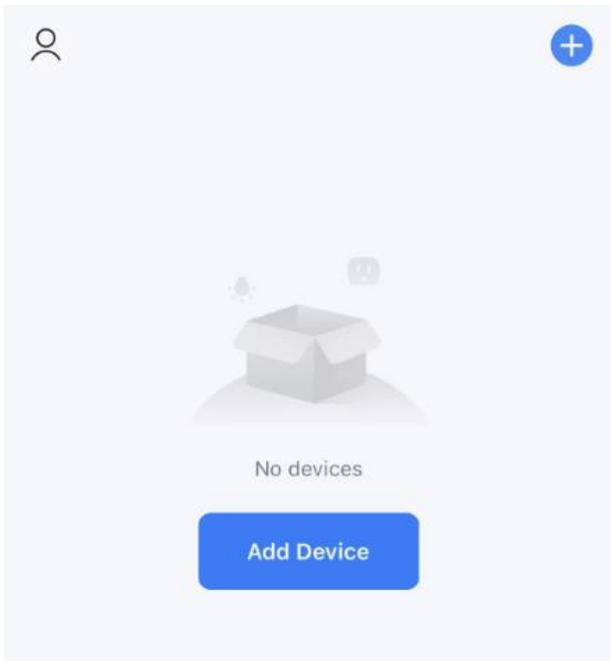

Fig.1
2. Sign up or log in to your account on the APP. Tap the "+" at top right corner or button "Add Device" to add your device. (Fig.1) **Notice:** when the Bluetooth of your phone is on, the device will be detected automatically as Fig.8; tap "Add". Enter the Wi-Fi information in Fig.9 and then tap "Next". Wait until you get Fig.10 and then tap "Done". Now you can operate your device in the control interface. Tap buttons to set your appliance. Alternatively, continue to follow below steps to manually add the device.